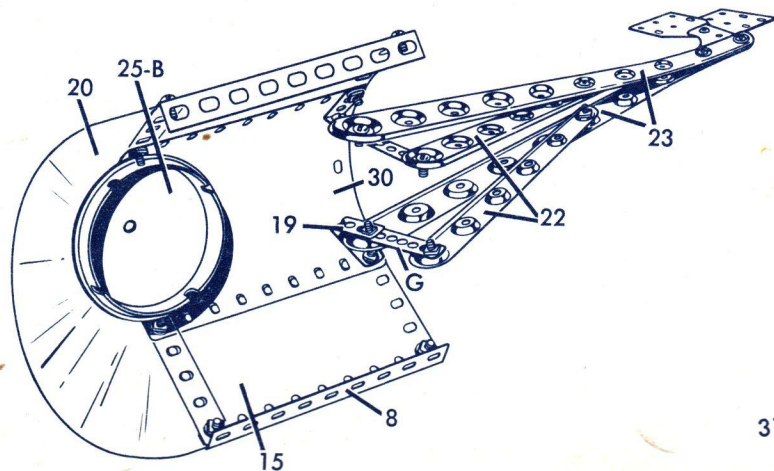

Fig. 3
Next, build the top section (Fig. 3) and slip the (25-B) yellow dome in place so that the (20) wind-shield fits under the rim.